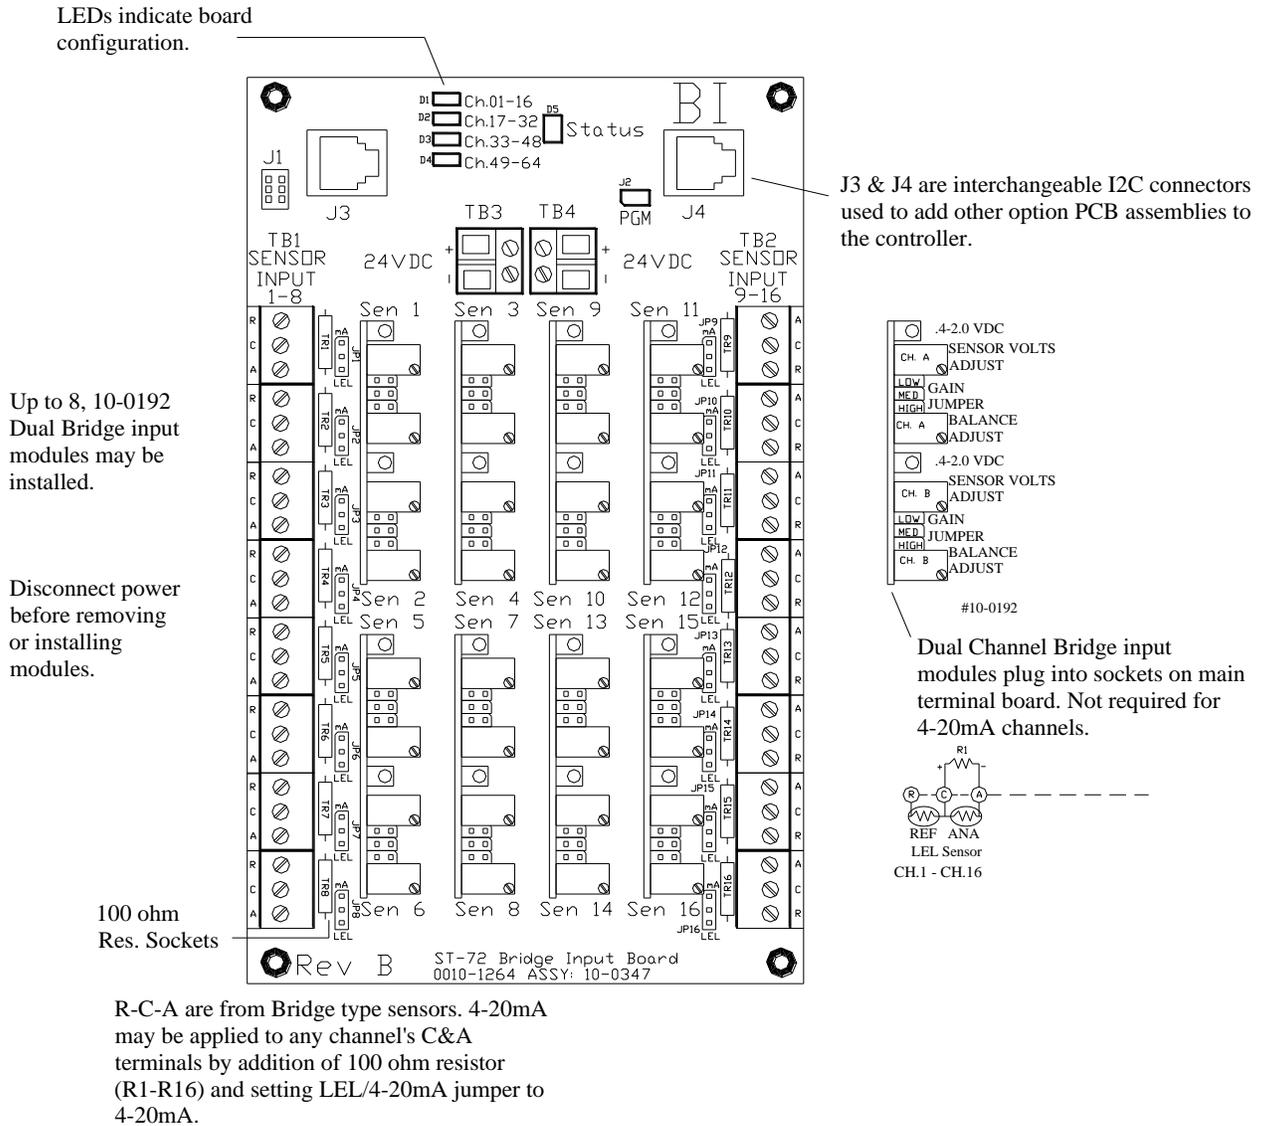

Figure 3-4
1. Prior to connecting sensors, apply power to the system. Note this board requires 24VDC power be connected to its TB3 or TB4 terminals 1 & 2 as shown in Figure 3-4. Measure the voltage between each channel's A and R terminals and set the *Voltage Adjust* potentiometers for the correct sensor excitation voltage. This may range from 1.5 volts to 7.5 volts depending upon sensor specifications. **Sensors may be damaged by accidental over voltage conditions. It is recommended the *Voltage Adjust* potentiometer screws be covered by a dollop of RTV or similar material after completion of this procedure to avoid accidental over voltage conditions.**